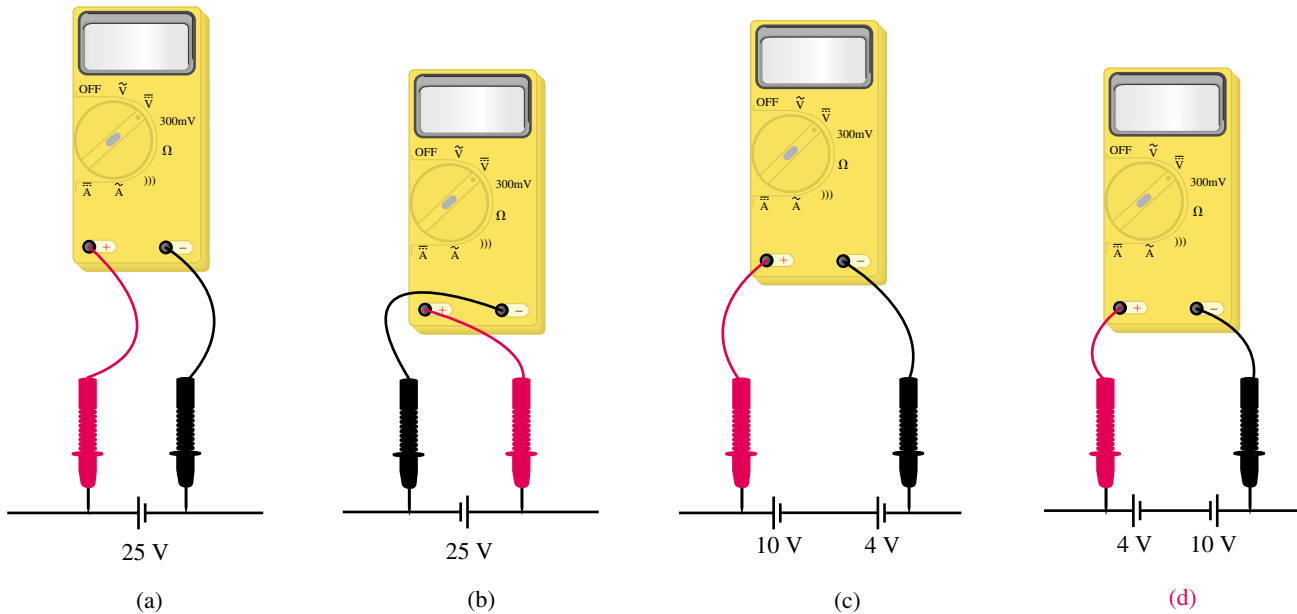

FIGURE 2-31
42. The digital voltmeter of Figure 2-31 has autopolarity. For each case, determine its reading.